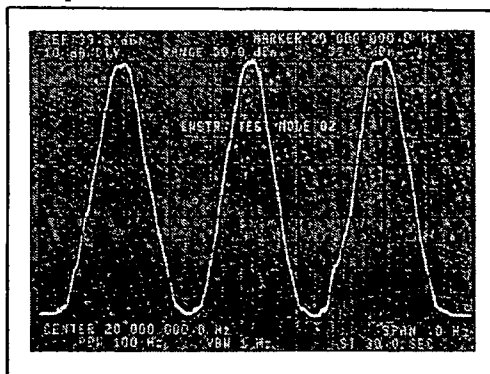

**Figure 11-P-16. IF Gain Test Display**
**Rotate  slowly and smoothly in a counterclockwise direction to produce a linear ramp response similar to the one shown in Figure 11-P-16. If there are any significant discontinuities, cusps or "glitches" in the ramp, rotate  clockwise until the beeper sounds, clear the trace by pressing CLEAR A and then repeat the test. Reappearance of the discontinuity indicates trouble in the IF gain switching (Service Group A-3) or video offset circuitry (Service Group A-5).**